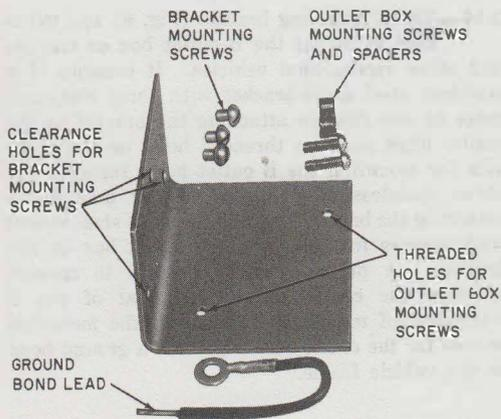

Fig. 61—B Mounting Bracket (for Mounting B Outlet Box)
3.14 The B mounting bracket (Fig. 61 and 62) is used to mount the B outlet box on trailers and other recreational vehicles. It consists of a stainless steel angle-bracket with three clearance holes on one side for attaching the bracket to the trailer hitch and two threaded holes on the other side for mounting the B outlet box. Included are three stainless steel thread-cutting screws for attaching the bracket and two stainless steel screws with spacers for mounting the outlet box on the bracket. A pigtail lead is included to connect between the center ground terminal of the B weatherproof male jack and one of the mounting screws for the outlet box to provide a ground bond to the vehicle frame.